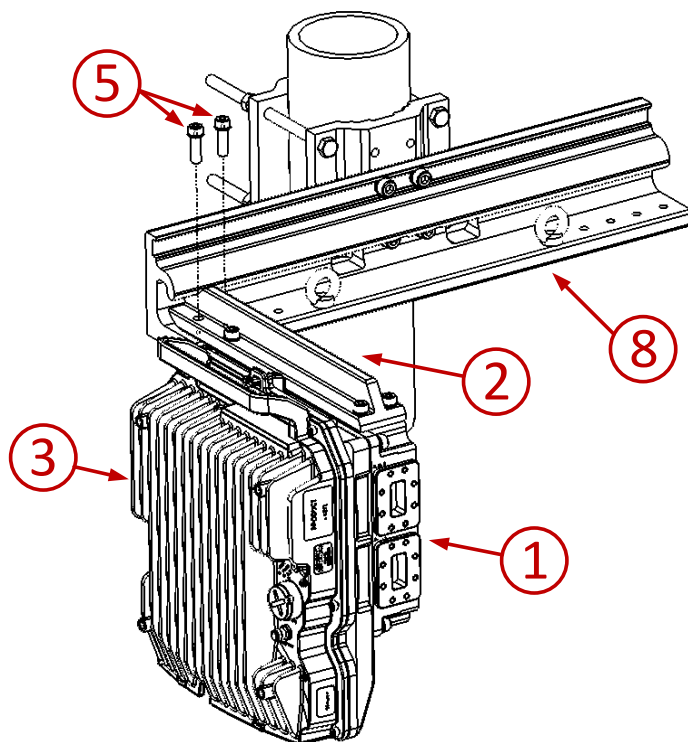

Figure 42: Securing the OCU-Radio Unit to the Branching Pole Profile
- 3 Partially attach the OCU-radio unit to the Branching Pole Profile with the two M8-30 screws included in the OCU kit, along with the remaining helical and flat washers, as shown in Figure 42. It is very important that at this point in the procedure, you do not fully tighten the screws. The screws should only be fully tightened after all the U-Bends and (if necessary) Terminations have been attached!
When you have finished installing all waveguides, and all of the radio ports have been covered, you must fully tighten the two M8-30 screws that attach the OCU-radio unit to the Branching Pole Profile as shown above in *Figure 42*.